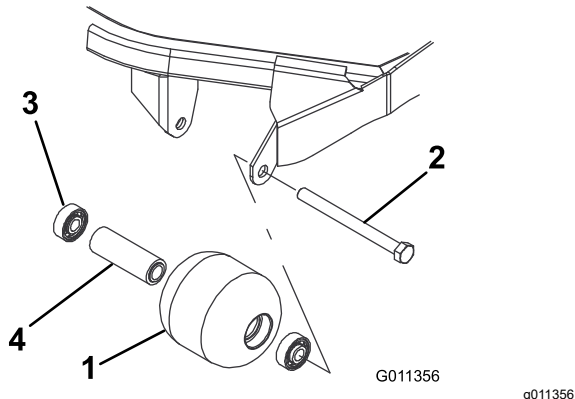

Figure 87
1. Remove the roller-mounting bolt (Figure 87).
1. Press the first bearing into the roller housing (Figure 87). Press on the outer race only or equally on the inner and outer race.
2. Insert the spacer (Figure 87).
3. Press the second bearing into the roller housing (Figure 87). Pressing equally on the inner and outer race until the inner race contacts the spacer.
4. Inspect the roller housing, bearings, and bearing spacer for damage (Figure 87). Replace any damaged components and assemble them.